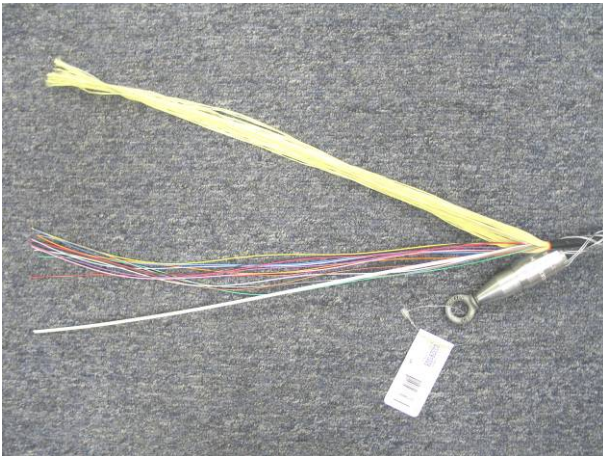

Figure 12: Outer Jacket Removed and Strength Elements Separated
Step 6: Once the cable has been inserted into the pulling grip, the jacket on the protruding cable should be removed and the strength elements should be separated from the buffers and central member (See Figure 12).